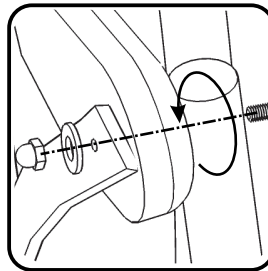

Figure 4
Orientate Top Rail (C) so Arrow label points up, then attach Top Rail (C) and Back Rail (E) to unit with Bolt (long) Small Flat Washer and Nut Cap, tightening bolt only halfway. (See Figure 4)